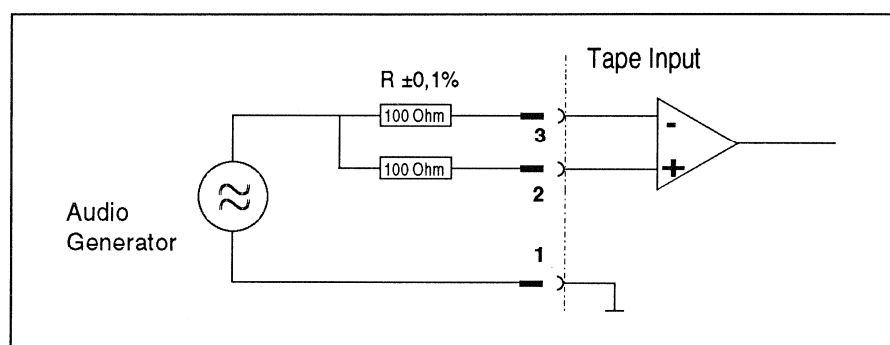

Fig. 8 Feeding the test signal for the adjustment of common mode rejection.
- The electronically balanced tape input needs adjustment of the common mode rejection. Feed the test signal to the a- and b-line of the input as depicted in fig.8.